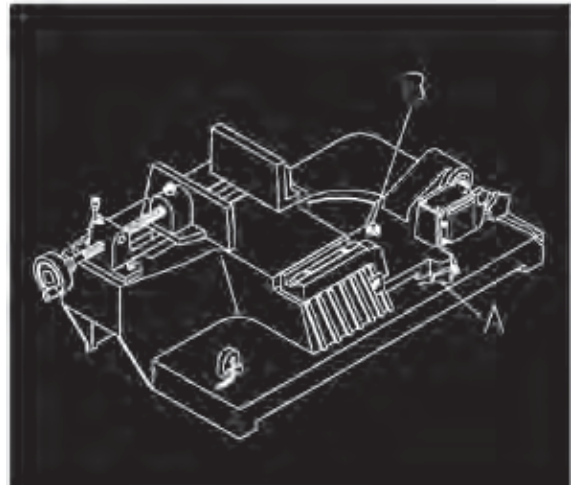

Fig. 4
The machine uses a pivoting mitre block for oblique cuts from 0 to 45 degrees. The pivot arm has an index - (A) in Fig. 4. The machine is pre-set to zero degrees when it leaves the factory. An oblique cut is adjusted in the following way:
1. Loosen bolt (B) to release the arm.